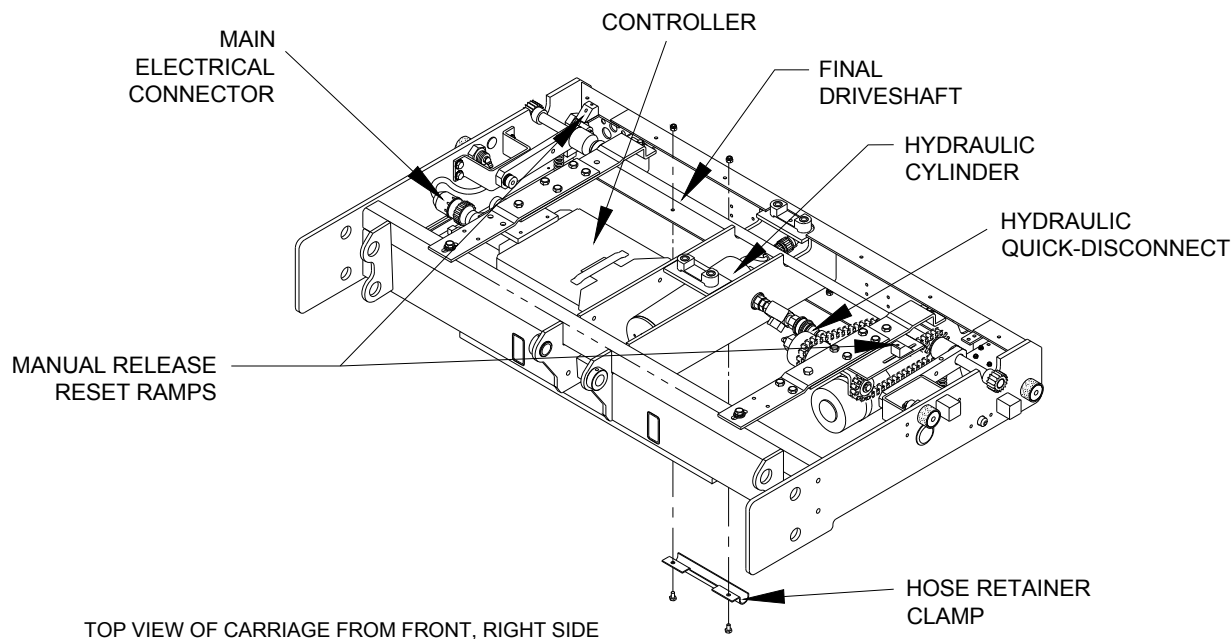

FIGURE 4-36: CARRIAGE COMPONENTS
- f. Refer to **Figure 4-36**. Verify that platform release shafts are in the engaged position (rotated in the direction opposite to what is indicated on adjacent decal). Deflect final driveshaft downward to disengage its pinion gears from gear rack. Use nylon tie-wraps, or similar, to hold driveshaft disengaged.